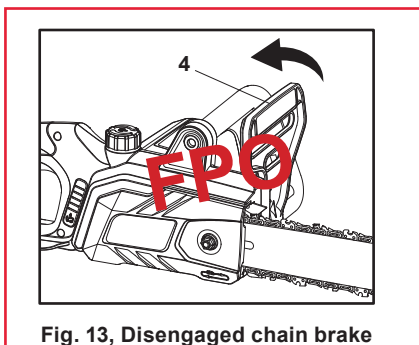

Fig. 13, Disengaged chain brake
Disengaged chain brake: When the chain brake lever (4) is in the disengaged position, the product can be operated normally (Fig. 13).